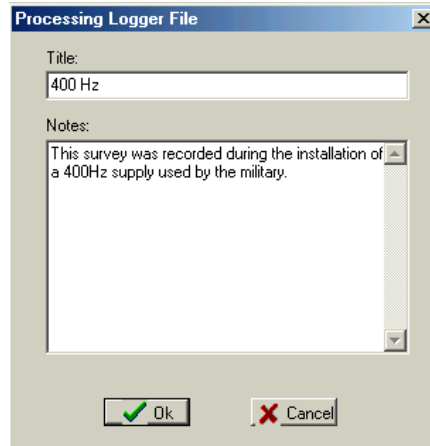

Fig 2.3
- Select the PP400Hz file or the PP60Hz file for viewing and select Open. The following Dialog Box (Fig 2.3) should appear with the Title and Notes blank. Enter some information in the Title and Notes box of the dialog. The Title and the Notes are not required, but are displayed in the Reports generated by **PowerView**. Select OK.